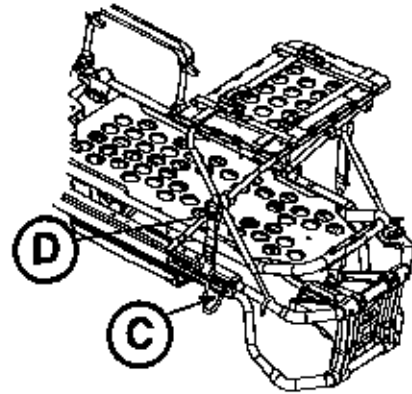

Figure 82
- Place the latch hook (C) under the cot litter frame or foot end fastener and push the tab (D) up until it locks into place with an audible click as shown in Figure 82. Repeat on the other side of the defibrillator platform.